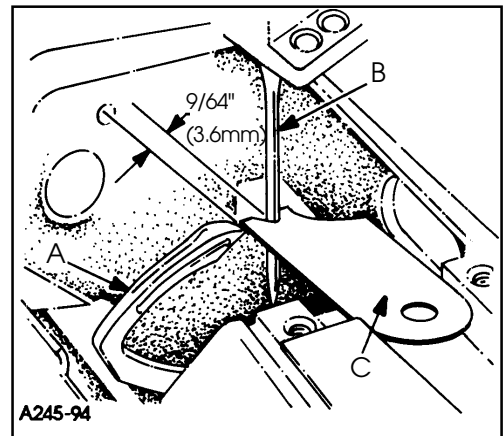
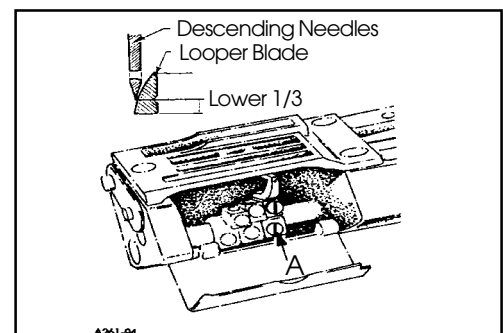

FIG. 6
FIG. 7
Insert a new set of needles, type and size specified. Always adjust the looper (A, Fig. 6) for the left needle first. Set the looper so that the distance from the center of the needle (B) to the point of the looper (A) is $\frac{9}{64}$ " (3.6mm) when the looper is at its farthest position to the left. Looper gauge (C) No. 21225-9/64 can be used advantageously in making this adjustment. If adjustment is required, loosen screw (A, Fig. 7) in looper holder, permitting movement in either direction to attain the $\frac{9}{64}$ " (3.6mm) dimension as shown in Fig. 6. Retighten screw (A, Fig. 7). Repeat for other needles and loopers.
Rotate handwheel in operating direction to assure that the looper point passes to the rear of the needle to touch but not deflect. This adjustment can be made by loosening screw (A, Fig. 7) in looper holder. Looper holder can be moved front to back to attain looper to needle setting. Always check the $\frac{9}{64}$ " (3.6mm) looper gauge setting after setting the looper to the back of the needle, and conversely, always check the setting of the looper to the back of the needle after setting the $\frac{9}{64}$ " (3.6mm) looper gauge.